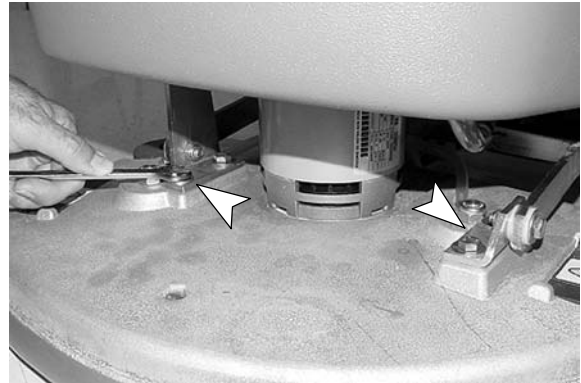

FIG. 60
1. Disconnect the scrub head lift arm mounting brackets from the scrub head, 13 mm wrench required (Figure 60).